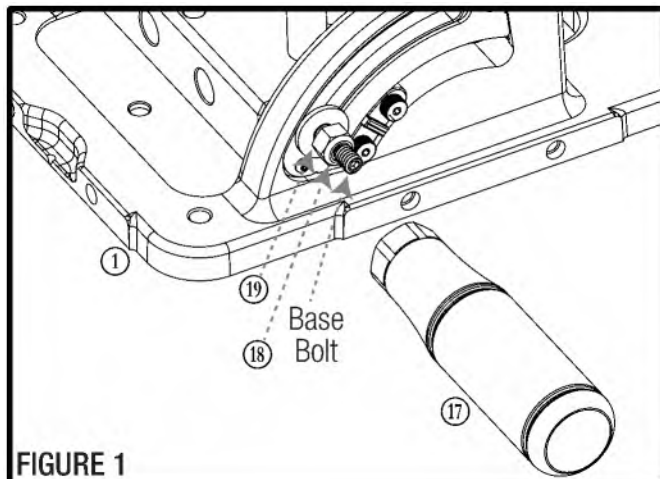

FIGURE 1
Attache the (2) Handles (17) by threading them onto the Base Bolt Assemblies. **FIGURE 1.**